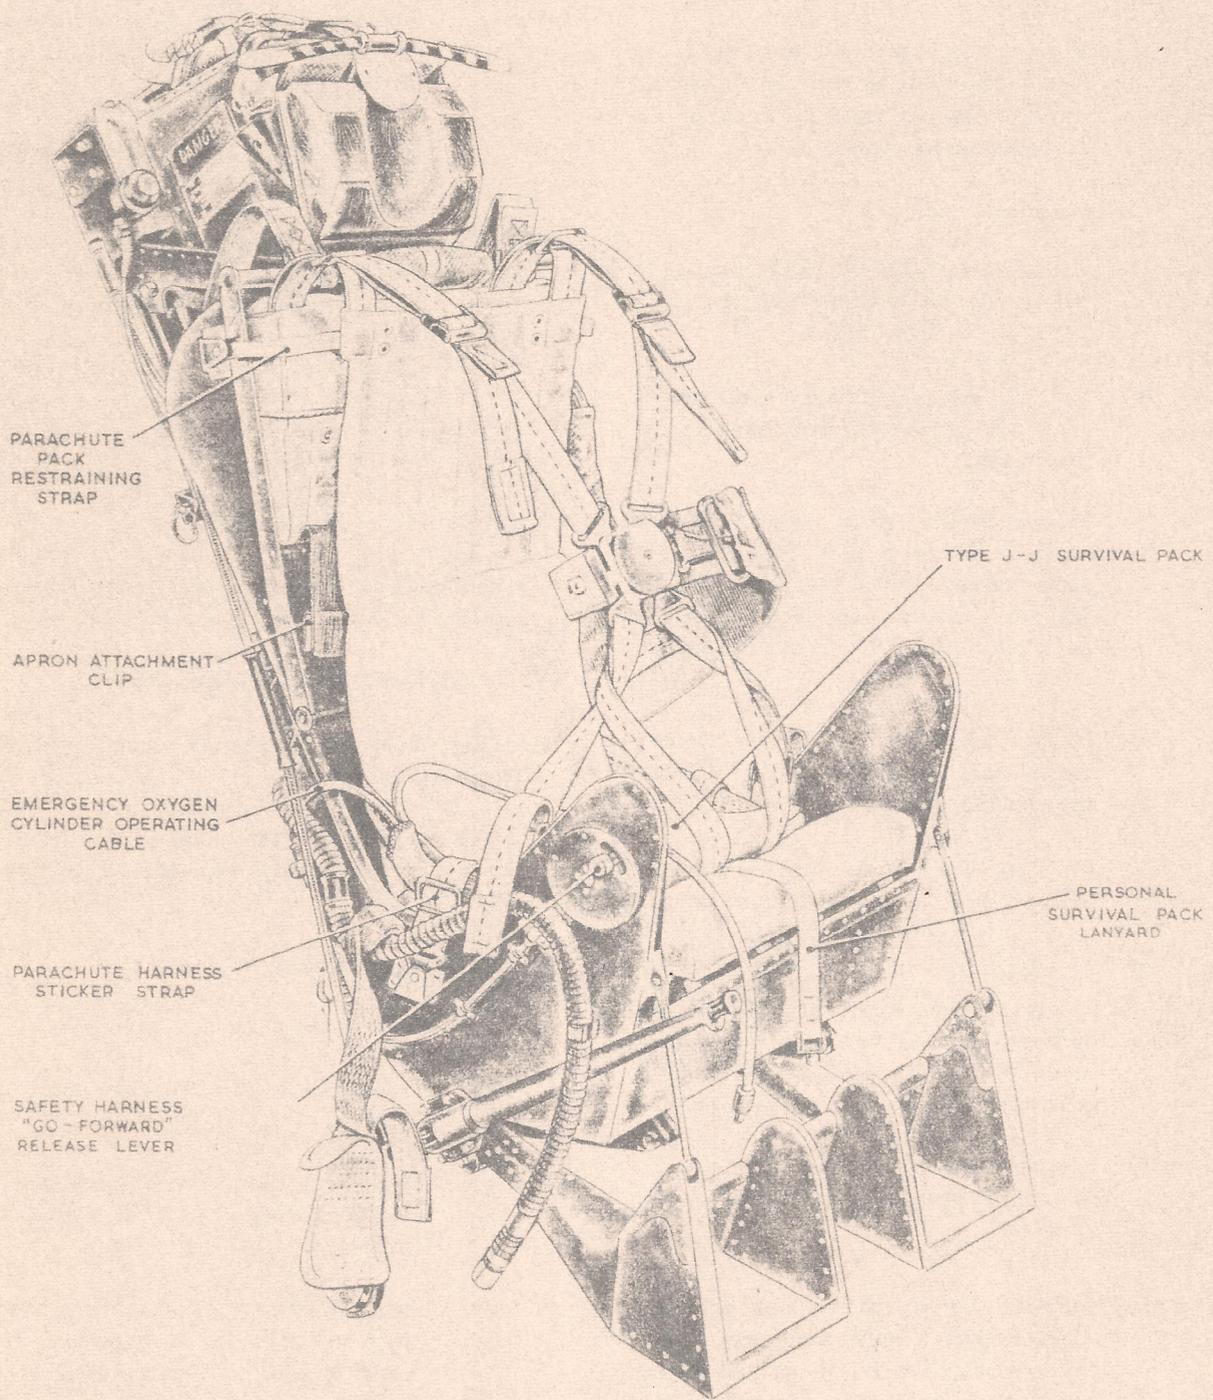

Fig. 1 The seat equipped (1)
9. The following procedure is to be adopted when equipping the seat; reference should be made to fig. 1, 2, 3 and 4 for detail as necessary:—